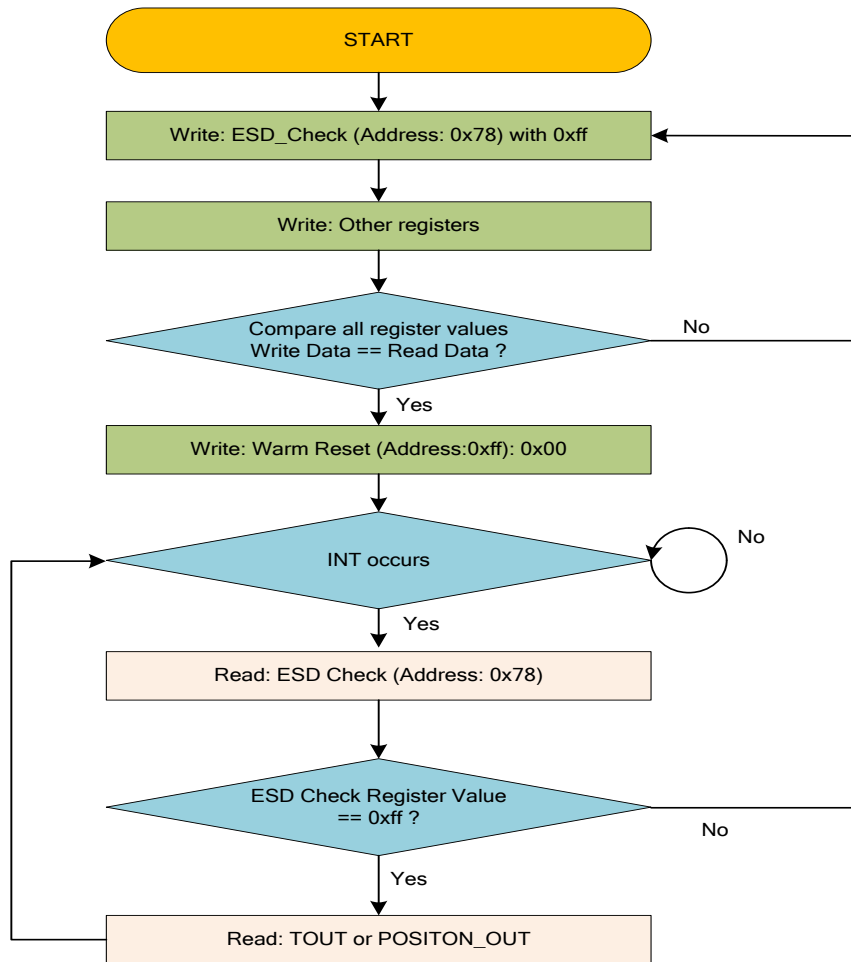

Figure 8-10: Flow Chart of TINT Service Routine
5. Give Warm Reset (0xFF address) to the ATA5009. Be sure that all interrupts generated before giving Warm Reset should be ignored by host MCU. The interrupts after giving Warm Reset should be handled normal and interrupt service routine must be performed as the flow chart below in the Figure 8-10.